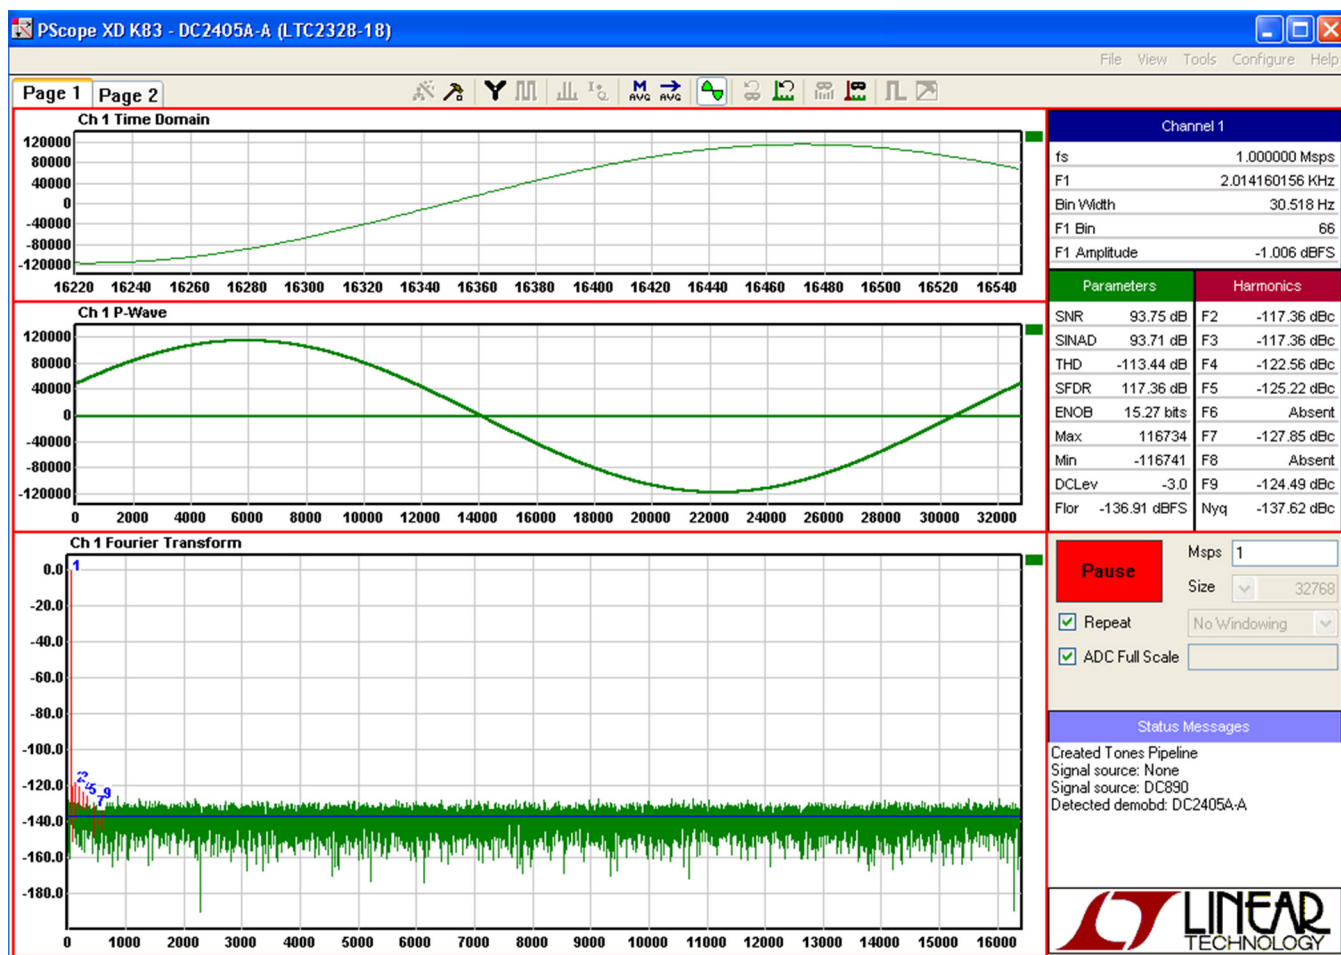

Figure 2. PScope Display Capturing 2kHz Input Tone
7. Click the Collect button (see Figure 2) to begin acquiring data. The Collect button then changes to Pause, which can be clicked to stop data acquisition.
The DC2405A analog input AIN is a single-ended input referenced to GND2. AIN has a high input impedance buffer (LT1468) before the LTC2328-18 ADC. The default setup for the DC2405A requires that AIN be driven with a low noise, low distortion generator for SINAD, THD, or SNR testing. Use an analog source such as the Stanford Research DS360 or SR1. Synchronize the clock source to the analog source through an external reference input to generate SNR and SINAD results similar to Figure 2 without windowing.
This demo board is tested in-house by attempting to duplicate the FFT plot shown in Figure 2. This involves a 100MHz clock source synchronized with a reference clock to an SR1 sinusoidal generator. The SR1 sinusoidal generator is set at a frequency of 2.01416kHz. The input signal level is approximately -1dBFS . A typical FFT obtained with DC2405A is shown in Figure 2. Note that to calculate the real SNR, the signal level (F1 amplitude = -1.006dB) has to be added back to the SNR that PScope displays. With the example shown in Figure 2, this means that the actual SNR would be 94.76dB instead of the 93.76dB that PScope displays.